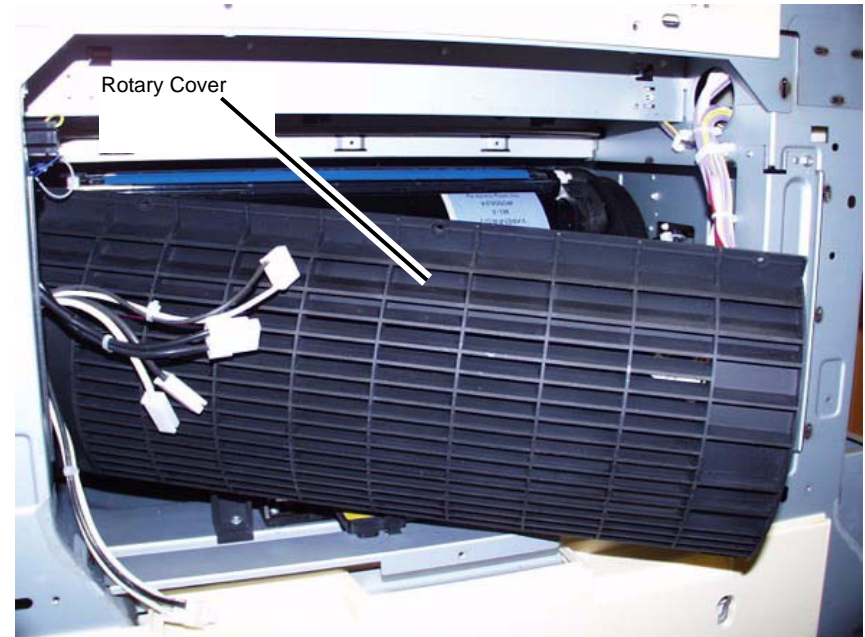

Figure 2 Removing the Rotary Cover
7. Remove the Rotary Cover. (Figure 2)